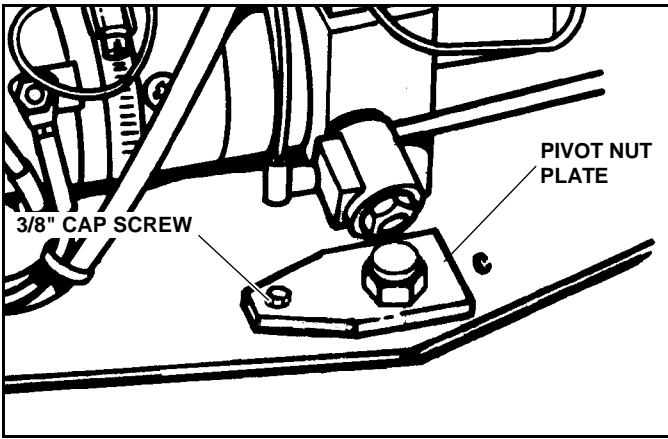

Figure 2-6
20. Reinstall 1" Pivot Bolt and tighten nut finger tight. (See Figure 2-6)
21. Install Pivot Nut Plate and secure with 3/8" Cap Screw. (See Figure 2-6)